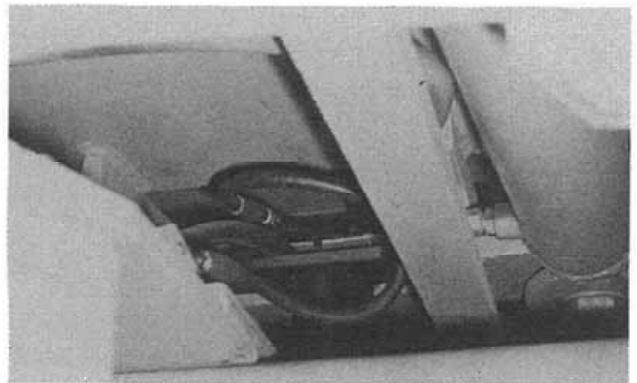
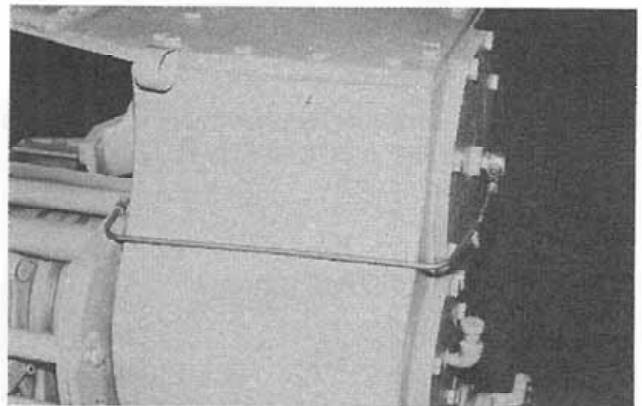

Figure 4:
Figure 5:
7. Remove the brake hose (Fig. 4) from the fitting on the bracket and quickly plug the hose to prevent total loss of fluid. Proceed to remove the bracket and line as an assembly (Fig. 5), as extra clearance is needed upon removal of the transfer case. Cap the slave cylinder port.